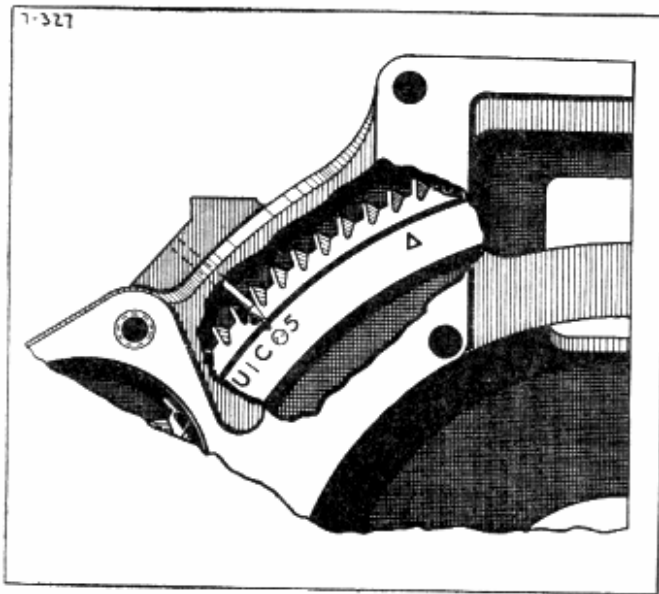

Fig. 58—Flywheel Timing Mark
2. Hand crank the engine until the timing pointer on the flywheel housing is exactly on the ignition mark (See Fig. 58.) and the rotor is pointing toward the mark on the distributor housing.
5. Neon flashes are then checked against flywheel markings (Fig. 58) which indicate the piston position at time the firing occurs.
4. Check the location of the pointer in relation to the flywheel marking (Fig. 58). If the pointer is within $1/16"$ of the mark, the timing may be considered satisfactory. Turn the distributor as necessary to bring the setting within the proper limits. Tighten the clamp bolt when the adjustments are made.
The preceding instructions pertaining to the initial timing of the distributor are the result of extensive research and tests. From these tests are determined the correct ignition timing mark (Fig. 58) for the engine used in this vehicle. These tests are made with high octane rating fuel. The engine will perform satisfactorily and economically with that fuel and with initial setting as described.